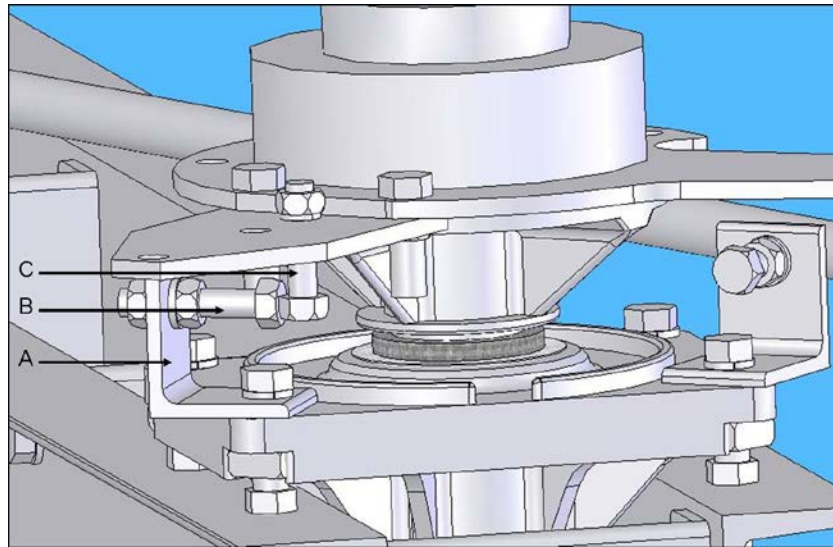

Figure 7: Blade Stops (72.5kV Bearing)
2. Assemble the switch pole on the ground and hoist it to the structure as a complete unit. **CAUTION:** To prevent overturning during assembly, the switch base must be securely attached to a level, stable platform. **CAUTION:** Lift fully assembled pole unit by the base only. **DO NOT lift the pole unit by the live parts.** Refer to **Figure 7**.
2. Back off the Blade Stops (Refer to **Figure 7**) on two insulator stacks.
7. Use only one stop to set up the switch, with the other two stops completely backed off, then adjust the crank arm stop or rest within 1/4" inch of the blade stops (Refer to **Figure 7**). If adjustment is necessary, loosen the nuts on the adjusting bolt and adjust the bolt until the distance between the blade stop and the stop is correct. Torque the nuts to proper value. (See **Table 2**).